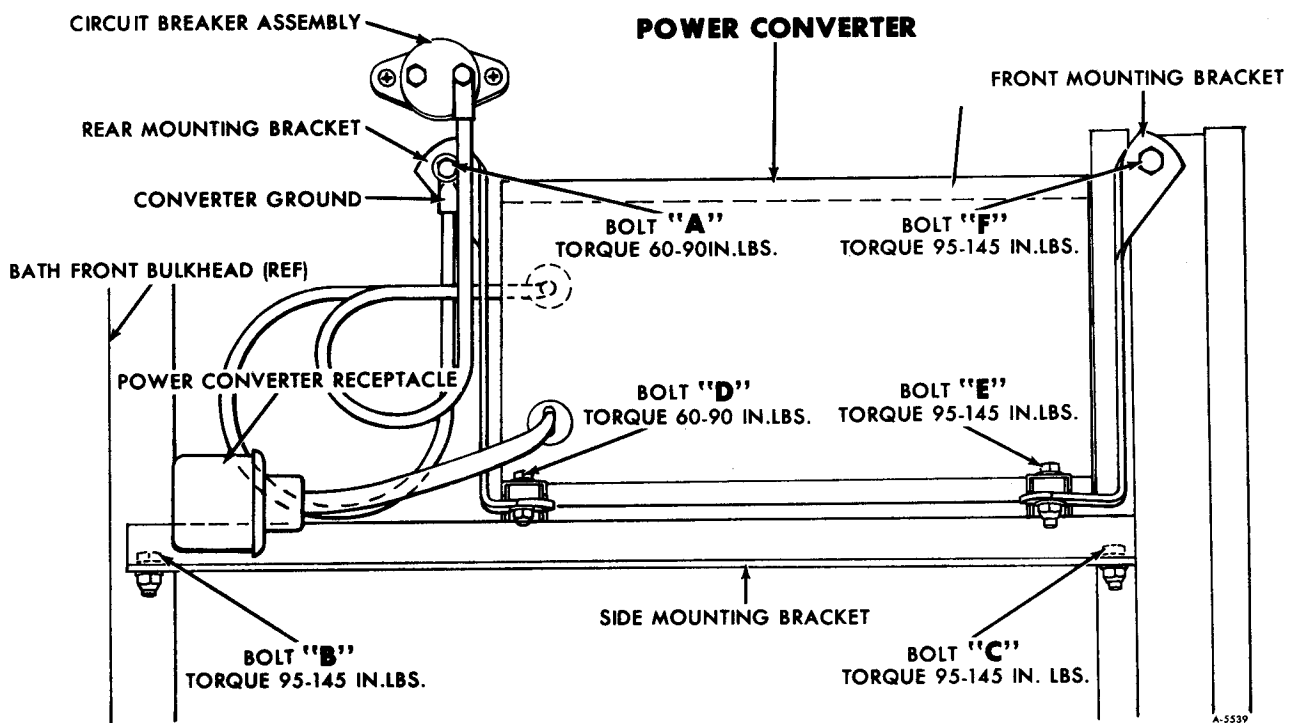

Figure 8—Converter Installation (ZEO6584)
5. Remove mounting bolt "A" at upper end of rear mounting bracket (figure 8). Disconnect converter ground wire from frame. Disconnect converter feed at circuit breaker.
6. Remove two bracket bolts "B" and "C" (figure 8) securing side bracket to furnace mounting bracket. Next, remove front and rear bracket bolts "D" and "E" (figure 8), closest to vehicle interior. Lift off rear mounting bracket.
8. Remove side mounting bracket from converter. Secure to replacement converter assembly. Refer to figure 8 for torque values (bolts "B" and "C").
9. Converter installation is reverse of removal procedure. Tighten all attaching parts to torque indicated in figure 8.